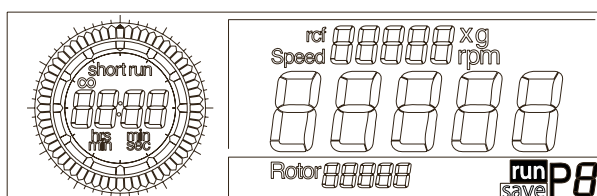

Fig. 5.16: Calling up stored programs;
- Turn the left rotary knob until “run” appears on the display (Fig 5.16).